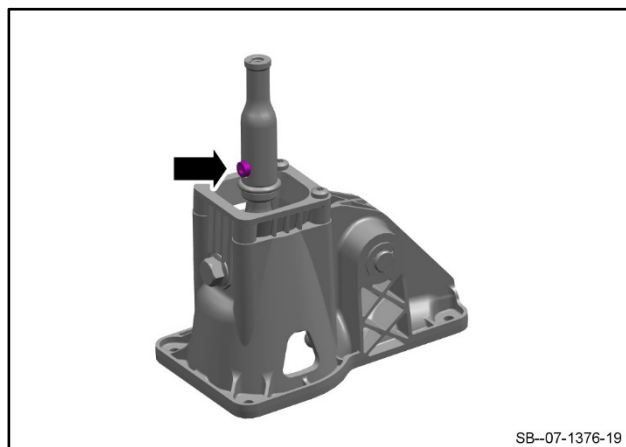

Figure 17
19. Install and tighten the screw that attaches extension for the gear selector (refer to Figure 17).